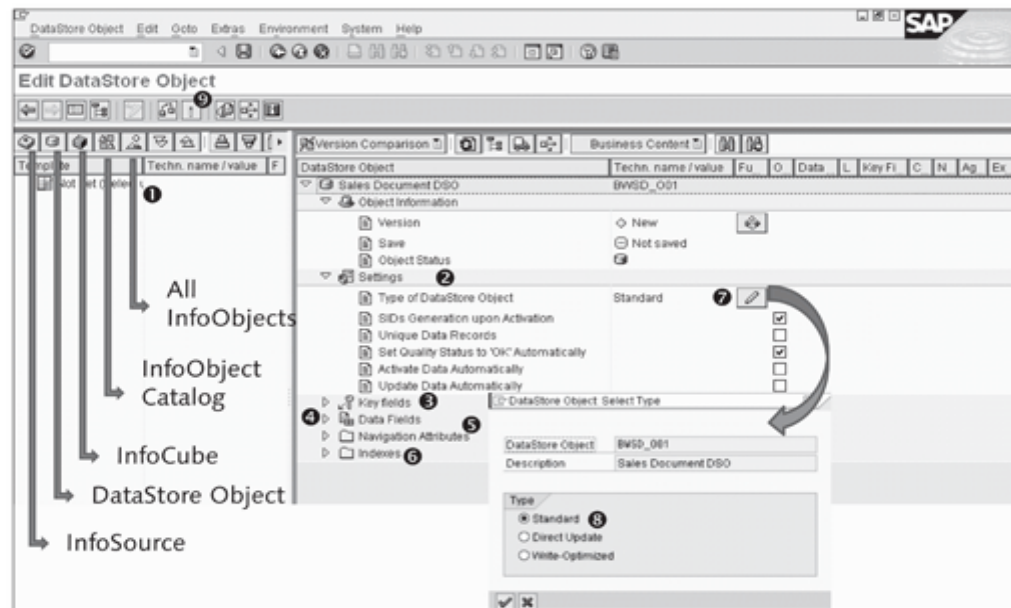
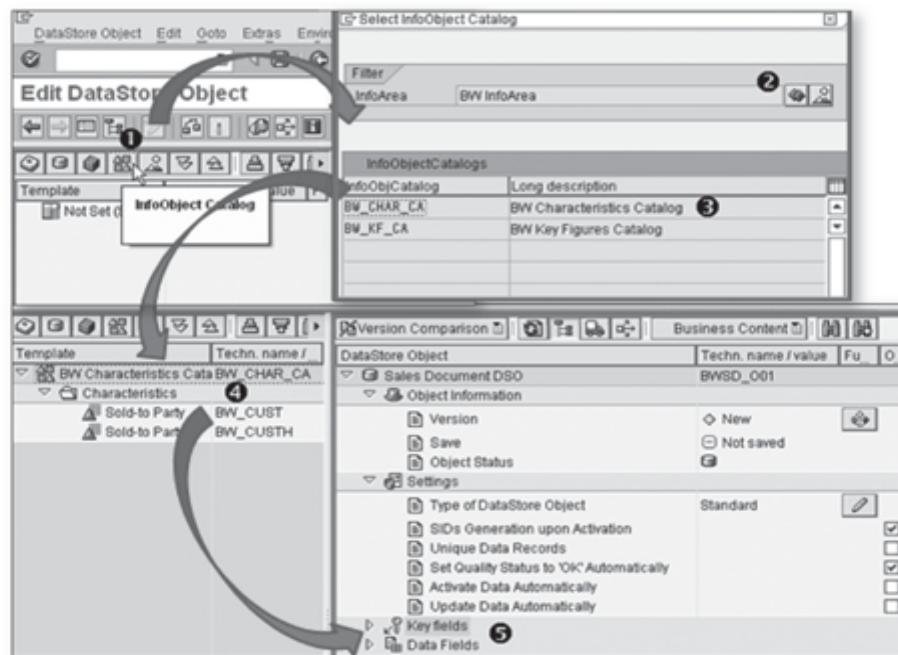

Figure 4.10 Key Settings in a DSO
Figure 4.11 Edit Data Store: Using Templates to Include InfoObjects in a DSO
Click on the Create icon  (❸). The resulting screen is shown in Figure 4.10.
The settings available when creating the DSO are shown in ❷ of Figure 4.10 and are explained in detail in Section 4.4.1, Key Settings in a Standard DSO. Different sections of a DSO definition are visible as key fields, data fields, navigation attributes, and the index, which are shown in ❸, ❹, ❺, and ❻ of Figure 4.10.
There are a few key settings for a DSO that play a very important role in its overall design and functionality. Figure 4.10 shows the screen with the settings we discuss in this section (❷). You can access this screen by selecting the DSO from the DWW and choosing Change from the context menu.
The left pane of Figure 4.11, allows you to select InfoObjects using the template function (refer ❶ of Figure 4.10). Several types of templates are available for selecting InfoObjects: InfoSource, DataStore Object, InfoCube, InfoObject Catalog, and All InfoObjects.
In this example, we'll use the template called InfoObject Catalog. To do this, select the InfoObject Catalog icon , as shown in ❶ of Figure 4.11. SAP NetWeaver BW displays a pop-up screen titled Select InfoObject Catalog. Select InfoArea  (❷). The InfoObject Catalog attached to the selected InfoArea is listed (❸). Double-click on InfoObject Catalog BW_CHAR_CA. The Template area on the screen now shows all of the InfoObjects available under the selected InfoObject Catalog (❹). You can select one or multiple InfoObjects by dragging and dropping over either key fields or data fields (❺).